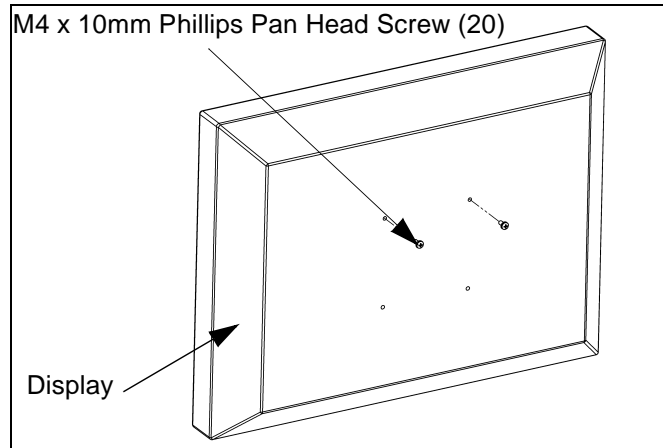

Figure 3: Prepare Display
1. Install two M4 x 10mm Phillips pan head screws (20) into two upper mounting holes in display back. (See Figure 3)